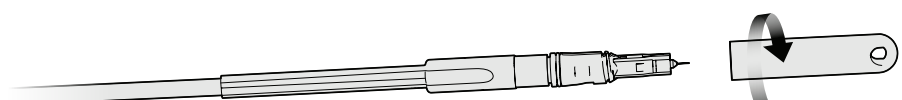

Figure 3
Step 2: Remove the dust cap from the Pushlok/OptiTap connector assembly (Figure 3).